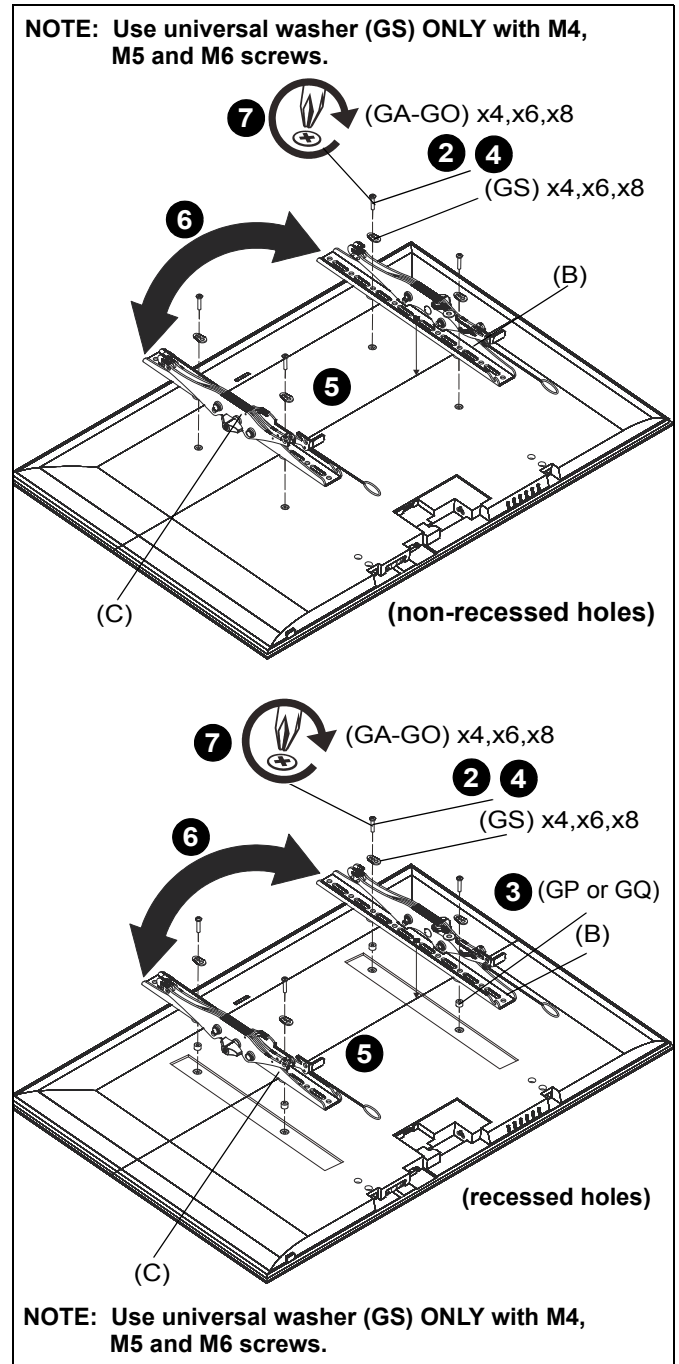

Figure 8
2. Select screw *diameter* by examining hardware (GA-GO) (8mm, 6mm, 5mm, or 4mm) and comparing with mounting holes on display. (See Figure 8)
3. Select spacers: (See Figure 8)
**IMPORTANT ! :** The M8 screws do **NOT** require a washer. Use the universal washer (GS) **ONLY** with M4, M5 and M6 screws.
4. Select screw *length*: (See Figure 8)
5. Place brackets (B and C) on display, ensuring: (See Figure 8)
7. Using Phillips screwdriver, carefully install selected screws through universal washers (GS, if required), brackets (B and C), and spacers (GP or GQ, if required), into display. (See Figure 8)